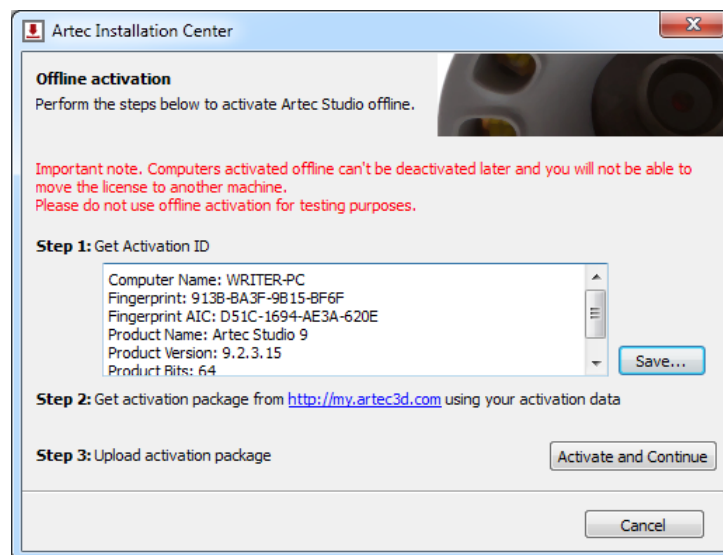

Figure 4.15: Offline-activation window
3. In the offline-activation dialog (Figure 4.15), click *Save...* and save generated Activation ID file to a flash drive or other storage medium.